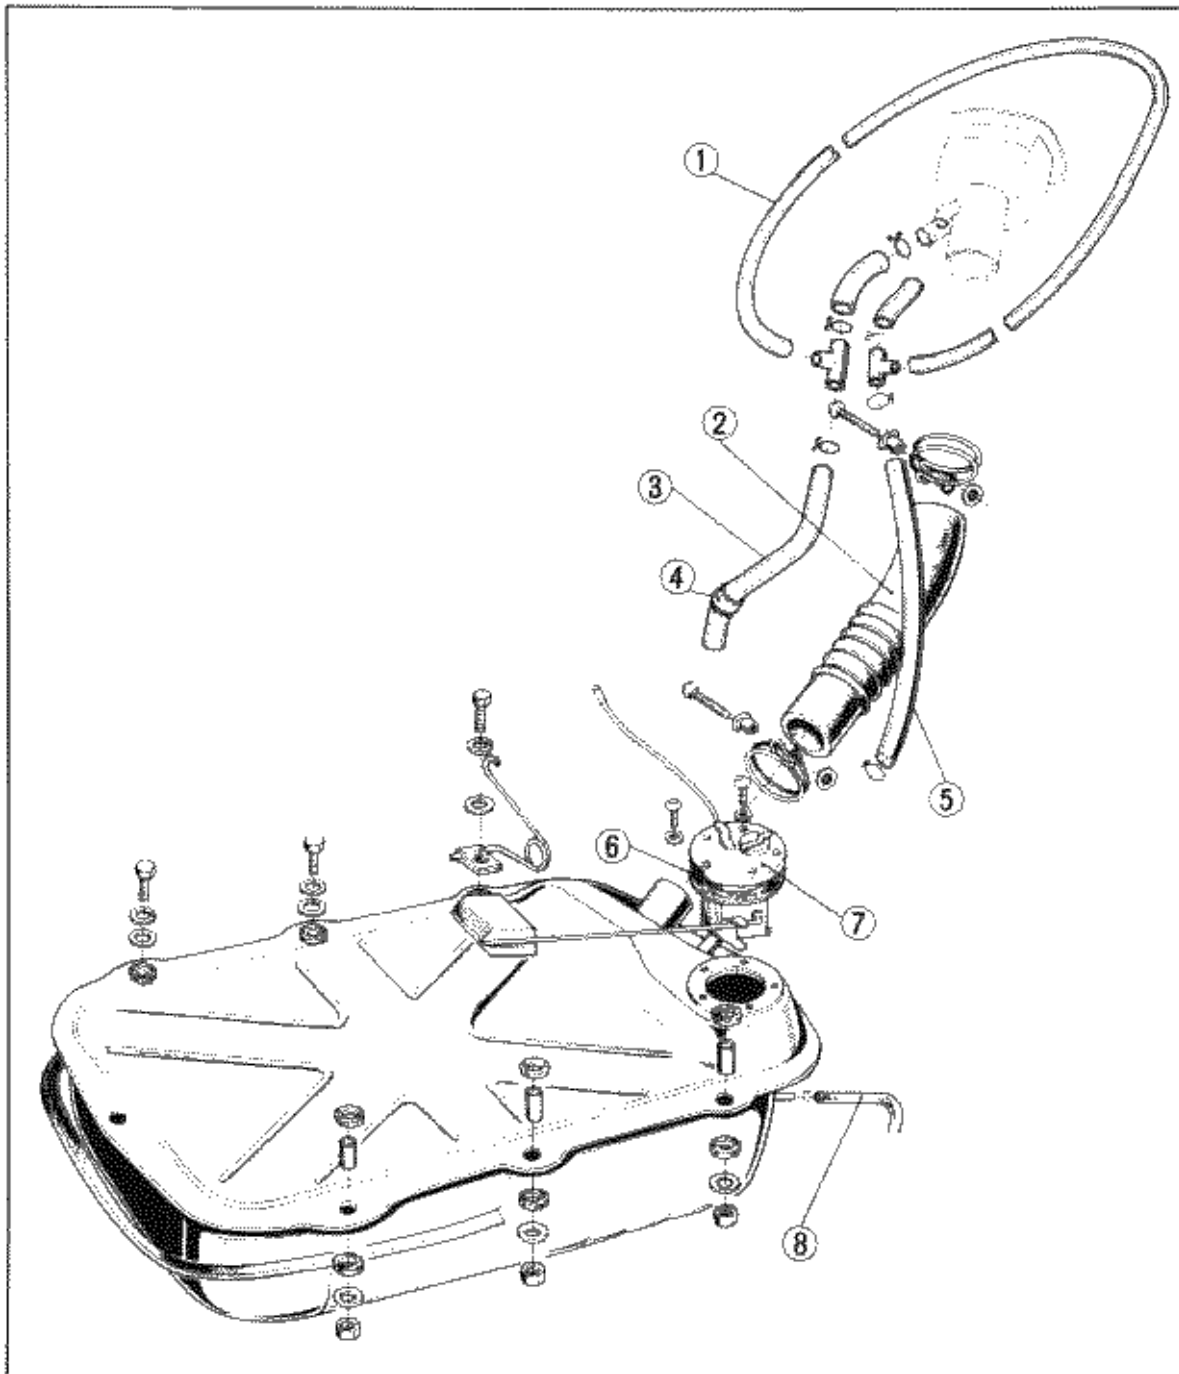

Fig. 13-3 ① Air Vent Tube ④ Fuel Drain Tube Grommet ⑦ Fuel Meter Unit
5. Remove the filler neck connecting tube and air breather tube B from the fuel tank. Disconnect the wire harness from the fuel meter unit. (Fig. 13-3)